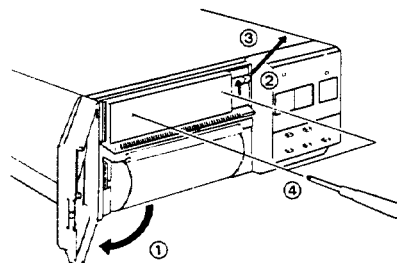

Fig. 2-10
2. Raise the paper replacing lever and remove the knob. (Fig. 2-10)
3. Remove two screws fastening the cutter panel. (Fig. 2-10)